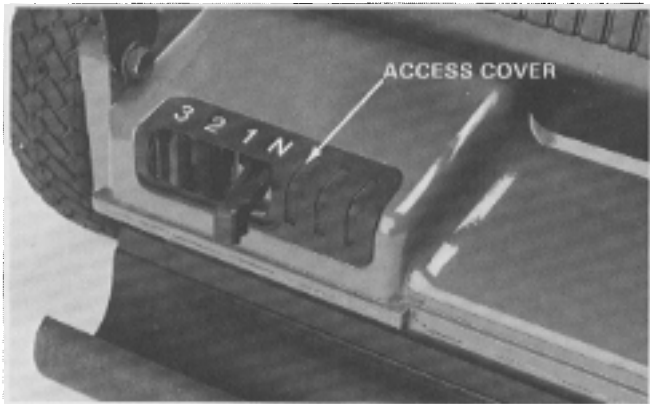

Figure 25
2. Raise and support the rear of the mower approximately 30 cm (12") off the ground. Remove the transmission access cover by pressing from underneath. See Figure 25.